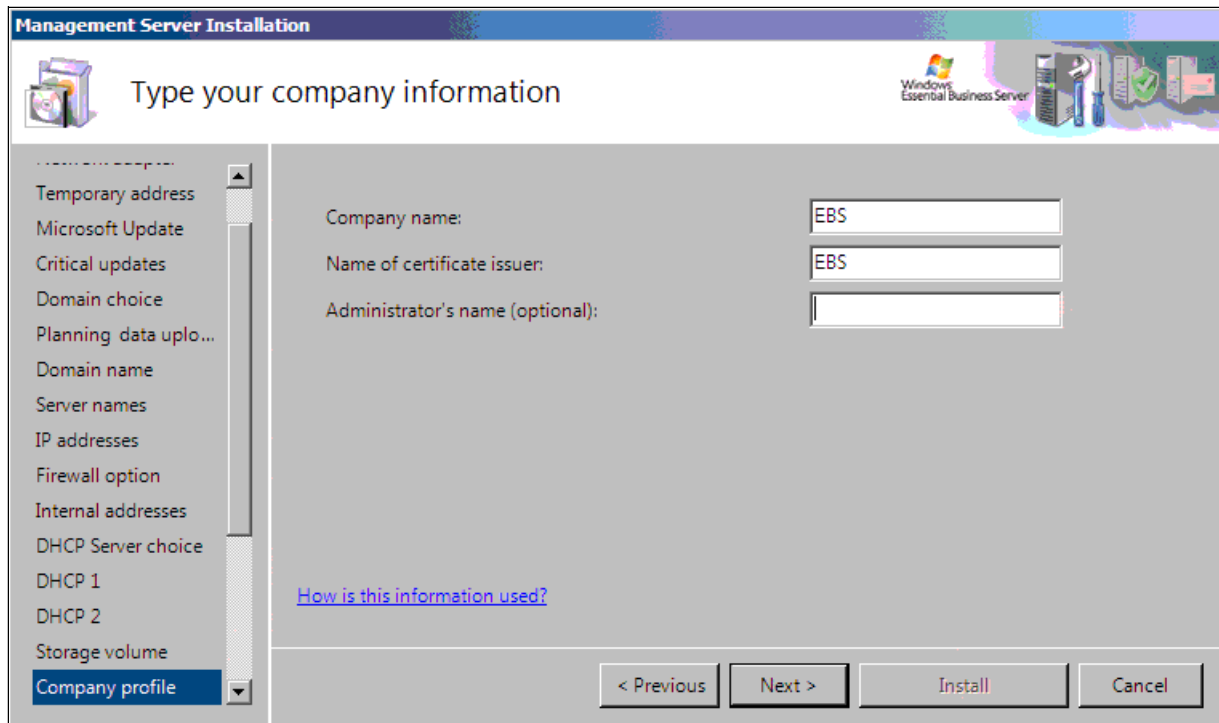

Figure 4-19 Type your company information
26. On the “Type your company information” panel (Figure 4-19 on page 105), enter the following information: